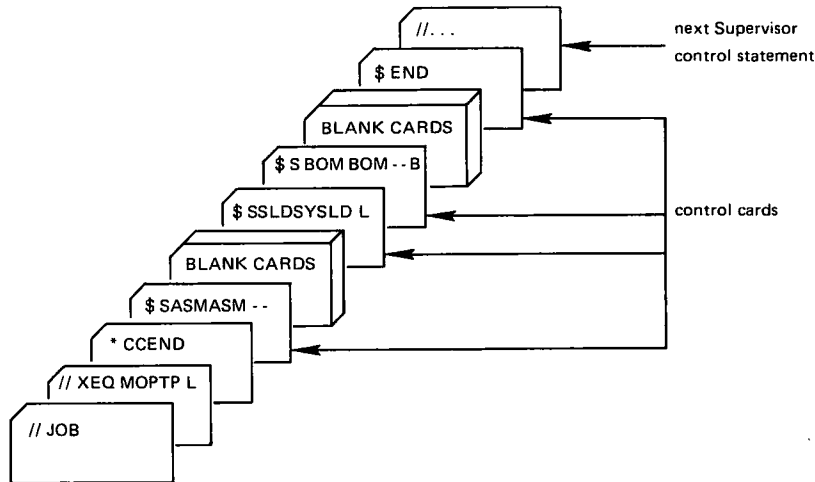

Figure 14.1 Example of Stacked Input for MOPTP
The Optional Material Tape Dump Program (MOPTP) provides you with the ability to punch, list, or punch and list selected modules from the optional material tape. MOPTP is stored in the User Area and is executed as background-processing job. The desired module and option are specified in control cards that you punch. Figure 14.1 illustrates the stacked input required for MOPTP.
1. Punch the required Supervisor control cards (Figure 14.1).
4. Place the Supervisor and MOPTP control cards in the card reader (Figure 14.1) and ready the reader. Note that modules may be selected in any sequence but if modules are requested in any order other than that shown in the index, tape rewind may occur before processing of some of the modules.